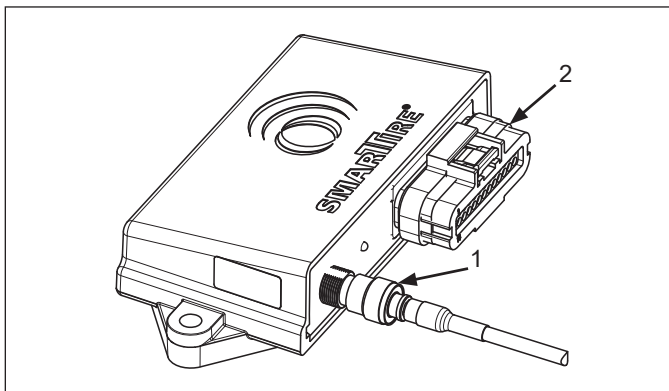

Figure 1 - Removing the Previous ECU
1. Unscrew the existing antenna connector from the ECU (1). See Figure 1.
2. Unplug the main harness from the existing TPMS ECU (2).